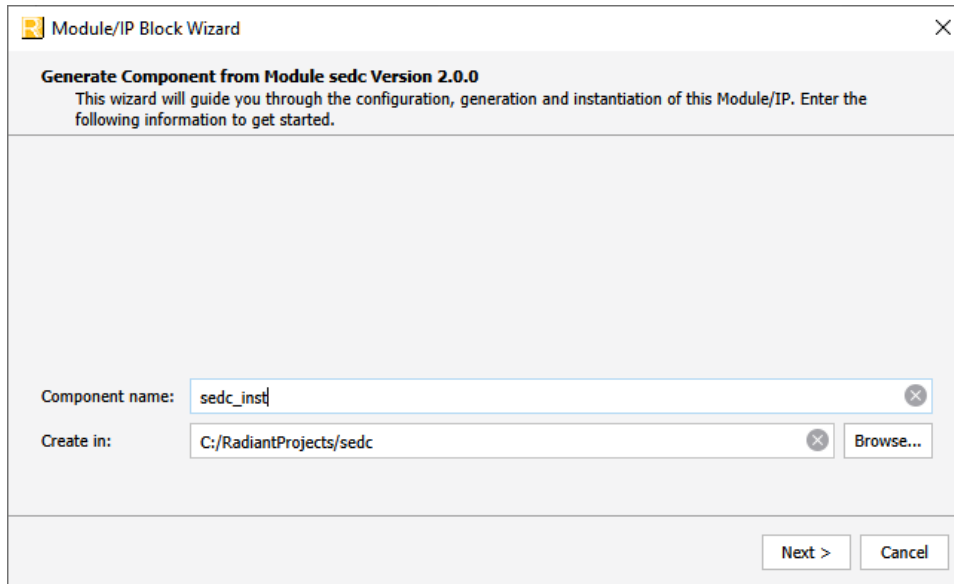

Figure 3.2. Module/IP Block Wizard
- Click the **Finish** button. All the generated files are placed under the directory paths in the **Create in** and the **Component name** fields shown in Figure 3.2.